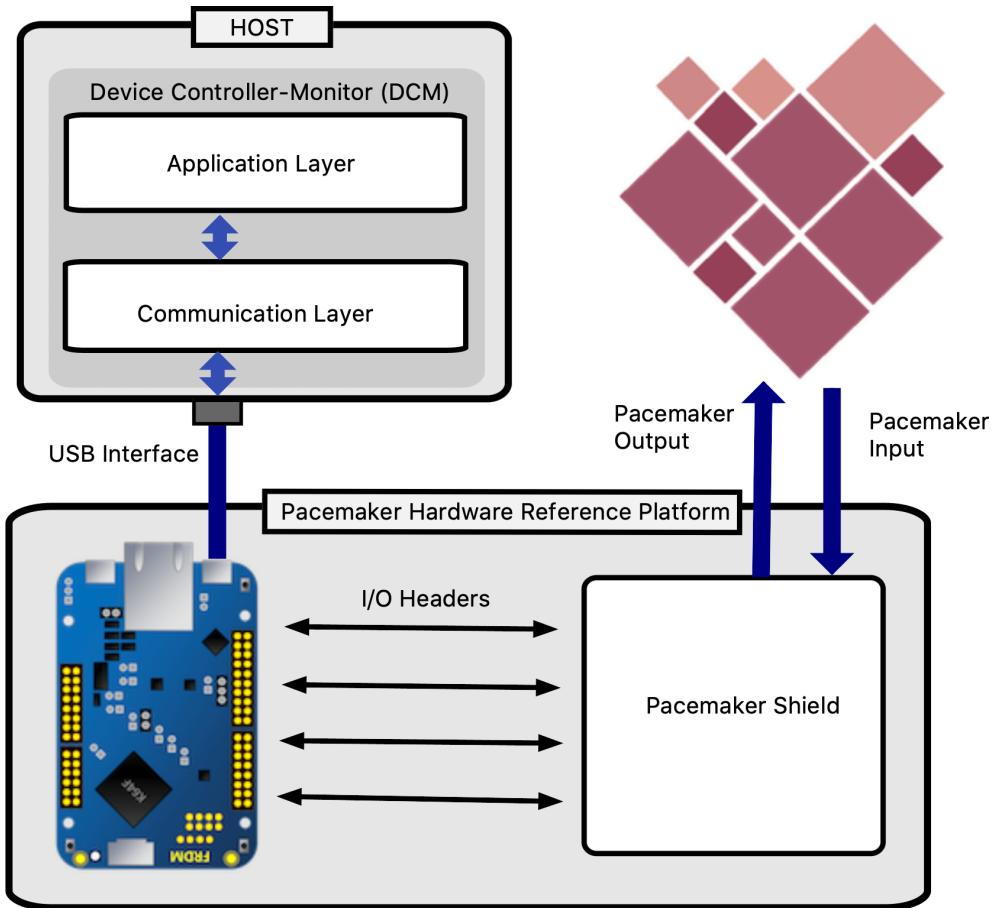

Figure 3: Pacemaker System Functional Description.
To understand the interactions between the two components of the development platform, it may be helpful to visualize each component in the context of the pacemaker system. Figure 3 shows the system level functional description of the pacemaker system.
**Heart:** in theory, the image in the top right corner of Figure 3 would represent a heart. In the context of the project, sadly the pulse generator will not be connected to a real heart. For our purposes, the image in the top right corner of Figure 3 represents the pacemaker testing controller. The pacemaker testing controller is described in more detail in The Testing Controller and HeartView.